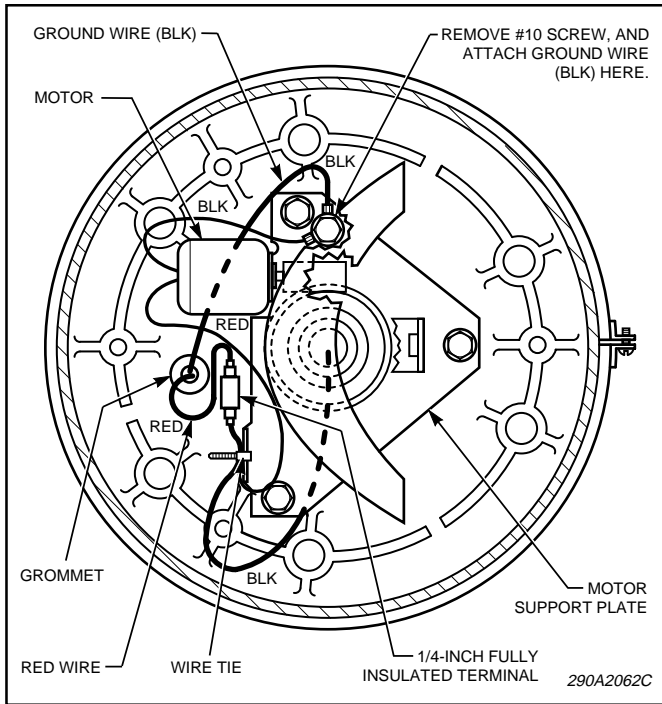

Figure 2.
2. Connect the red and black wires to the light as shown in figure 2.
3. Wire tie the red wire to the motor support plate as shown in figure 2.
4. Connect the unused terminal of the previously installed switch to one side of a user-supplied fuseholder. Connect the other side of the fuseholder to the positive (+) terminal of the vehicle's battery. Install a six (6) amp fuse in the fuseholder.